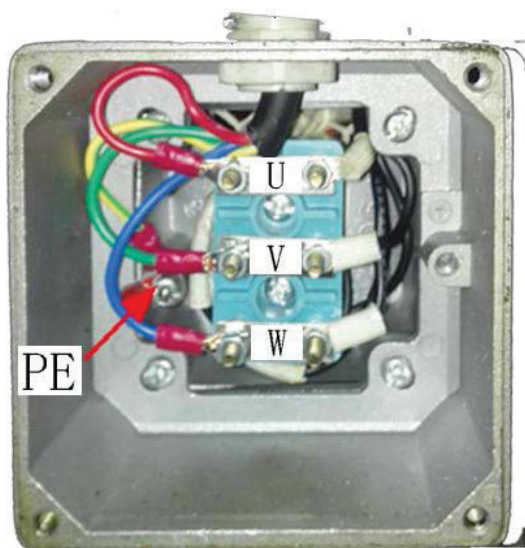

fig.10
- Connection of power line: Connect the 380V three-phase four-wire powerline (cable of 3×2.5MM²+ 1×1.5 MM²) to the control cabinet interfaces U, V, W and input terminal, and connect the PE grounding wire to the labeled grounding bolt firstly and then to the labeled grounding bolts at the bottom of the two platforms (Fig. 10, 11)